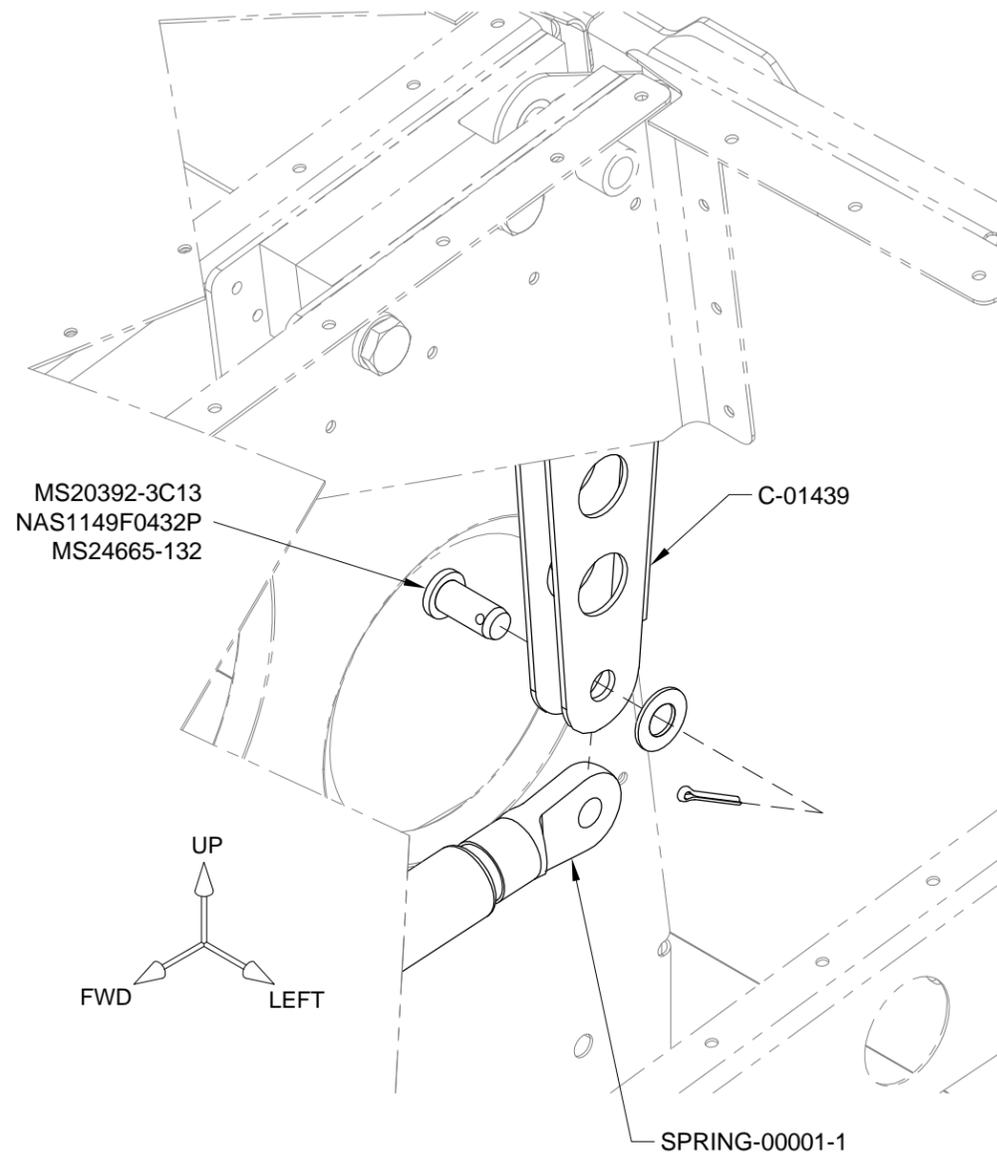

FIGURE 1: ATTACH GAS SPRINGS
Step 1: Install the aft end of each SPRING-00001-1 Gas Spring into the C-01439 Canopy Cradles using the hardware shown in Figure 1. If necessary, refer to Page 35-01.